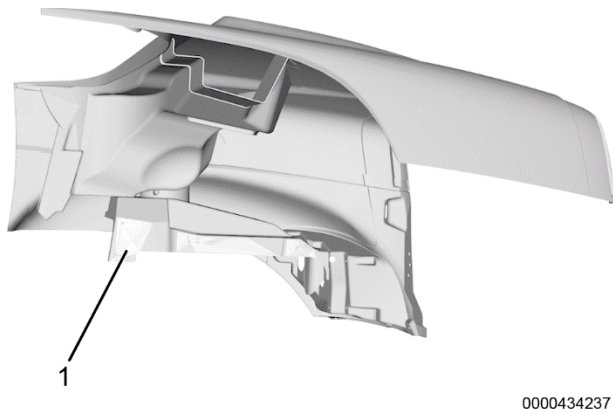

Figure 1. Hood Switch Location
6. Locate and access hood switch (Figure 1, Item 1) mounting location.